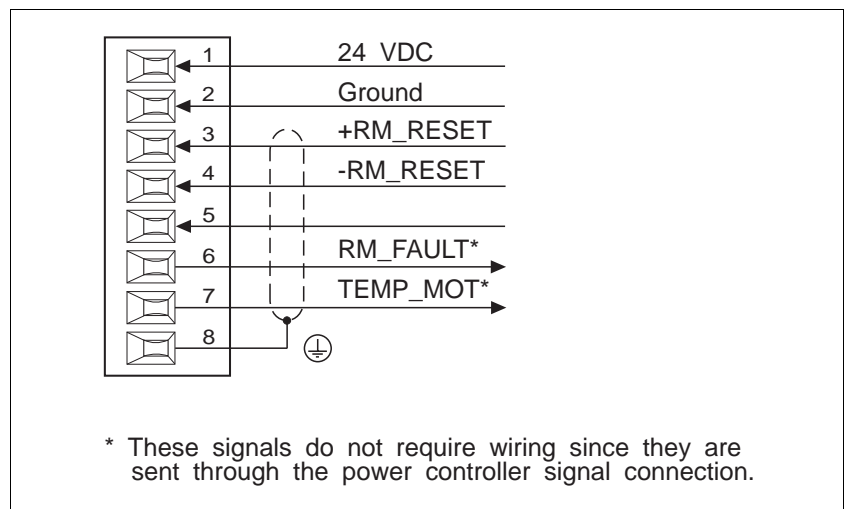

Fig. 2-7 Rotation monitoring connection
2. Fasten the litz wires with screws on the connector of the rotation monitoring connection as illustrated in figure 2-7.
3. Plug the connector into the front panel (item 02).